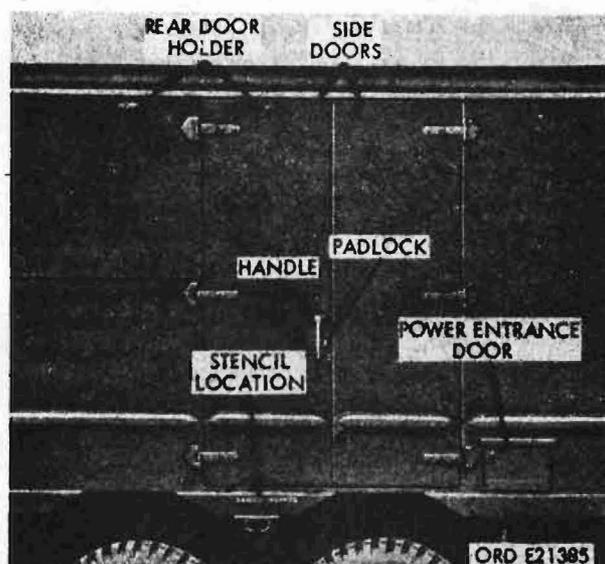
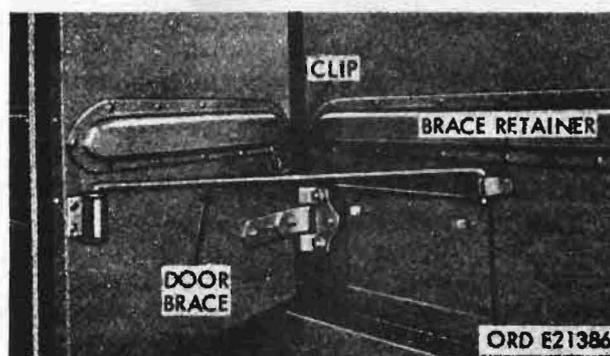

Figure 139. Side door assemblies
Figure 140. Front side door brace and retainer
b. Rear Side Door. The rearward side door (fig. 139) is equipped with an outside handle, lock assembly, and two inside lock latches, one at top, and one at the bottom of the door. To open the door, turn the door handle to a horizontal position. The
outside handle may be secured in the closed position with a padlock. The rear side door can be swung fully open and held against the body of the rear door holder (fig. 139). To lock the door, close door, and turn the outside handle to a vertical position.
c. **Front Side Door.** The forward side door (fig. 139) is equipped with two "slam action" latches, an upper latch which includes a rod and guide assembly, and a lower latch. To open the door, pull down the ring on the upper latch rod and lift up the lower latch. The front side door can be opened about 120 degrees and retained in position (fig. 140) by disengaging the door brace from the clip on the right side of the door and inserting the forward end of the brace in the brace retainer, on the van body, just above the power entrance door.
d. **Power Entrance Door.** The power entrance door (fig. 139) is opened by grasping the knurled portion of both door latches and turning the latches one-quarter turn counter-clockwise, allowing the door to swing outward